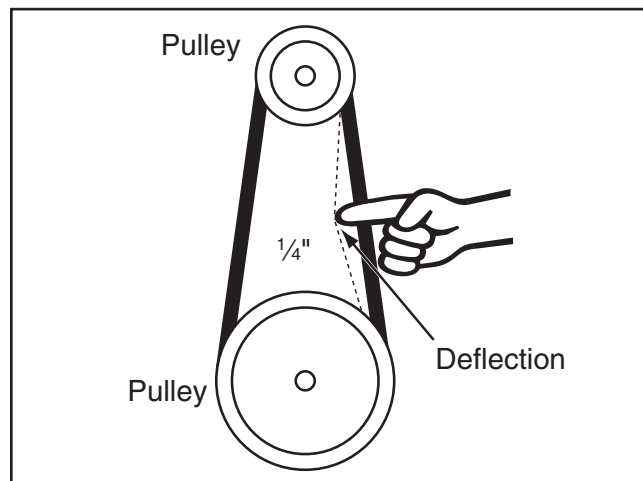

Figure 126. Checking belt tension.
5. Press belt in center to check belt tension. The belt is correctly tensioned when there is approximately $\frac{1}{4}$ " deflection when it is pushed with moderate pressure, as shown in **Figure 126**.